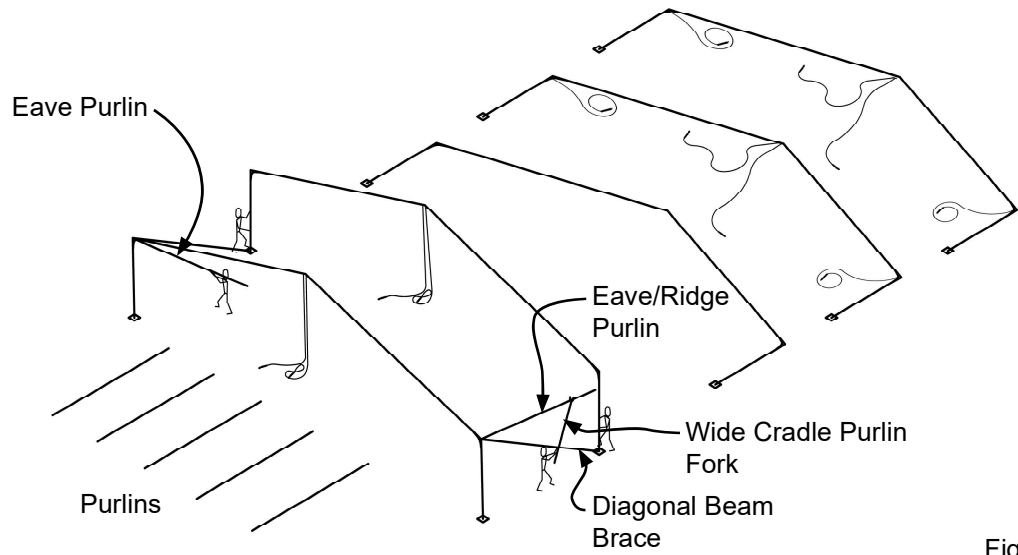

Figure 3.3a
3.3.2 Raise the second arch as described in steps 3.2.1 for the first arch. When the arch is vertical, one installer on each side must swing the free end of the eave purlin, using the wide cradle purlin fork (supplied in the installation kit), to drop the eave hook into the bracket at the ends of the rafters on the second arch as shown in **Figure 3.3a**. Use the same technique and purlin fork to install the ridge purlin into the brackets at the ridges. Use the roof cables to help sway the arch and align the purlin hook with the ridge bracket.